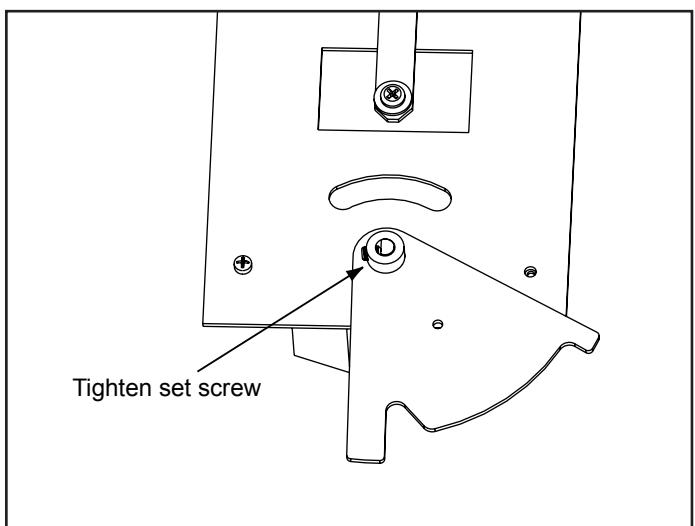

Figure 4.23 Linkage Control Arm Installed
- Place linkage control arm over timer shaft and tighten set screw, Figure 4.23.
- Rotate linkage control arm into final position and re-attach to mounting plate. Note that the D cut is now facing the linkage timer arm. Re-attach the linkage timer arm, Figure 4.23.